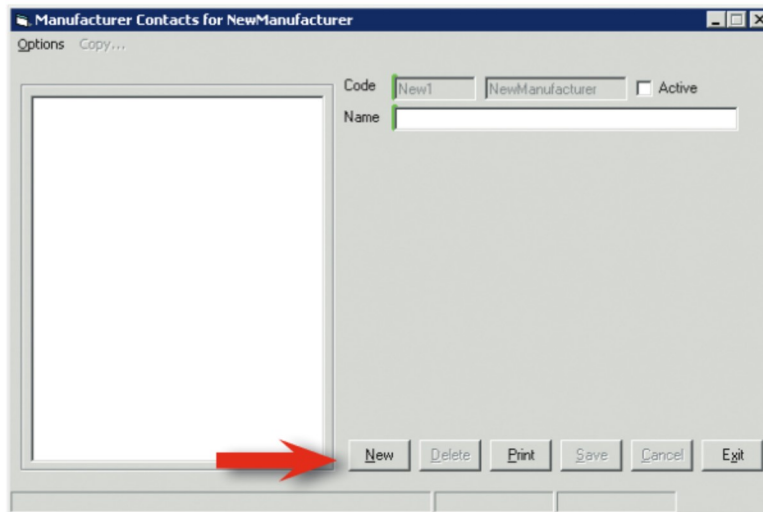

Figure 7. Manufactures Contacts dialog.
3. Click the **Contacts** button on the **Contact Info** tab to open the *Manufacturer Contacts* dialog (see Figure 7).
4. Click **New** on the *Manufacture Contacts* dialog (see Figure 7).